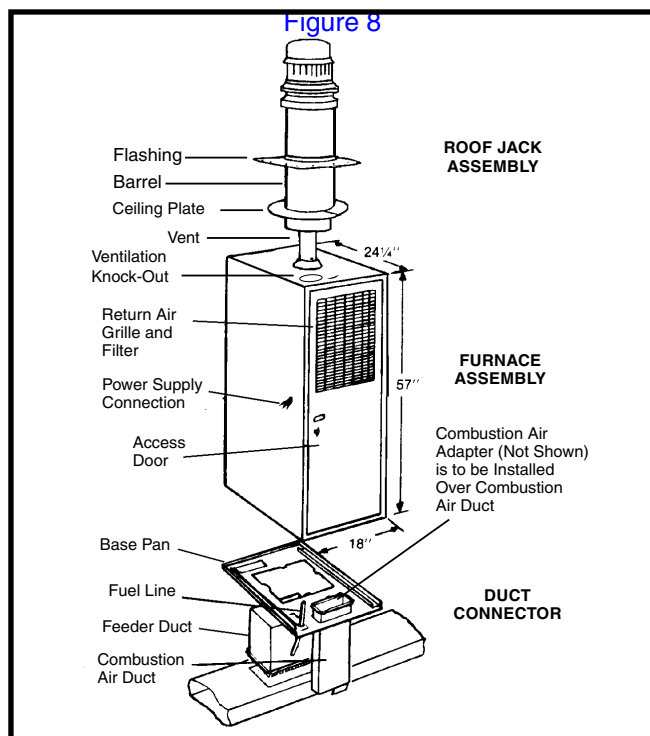
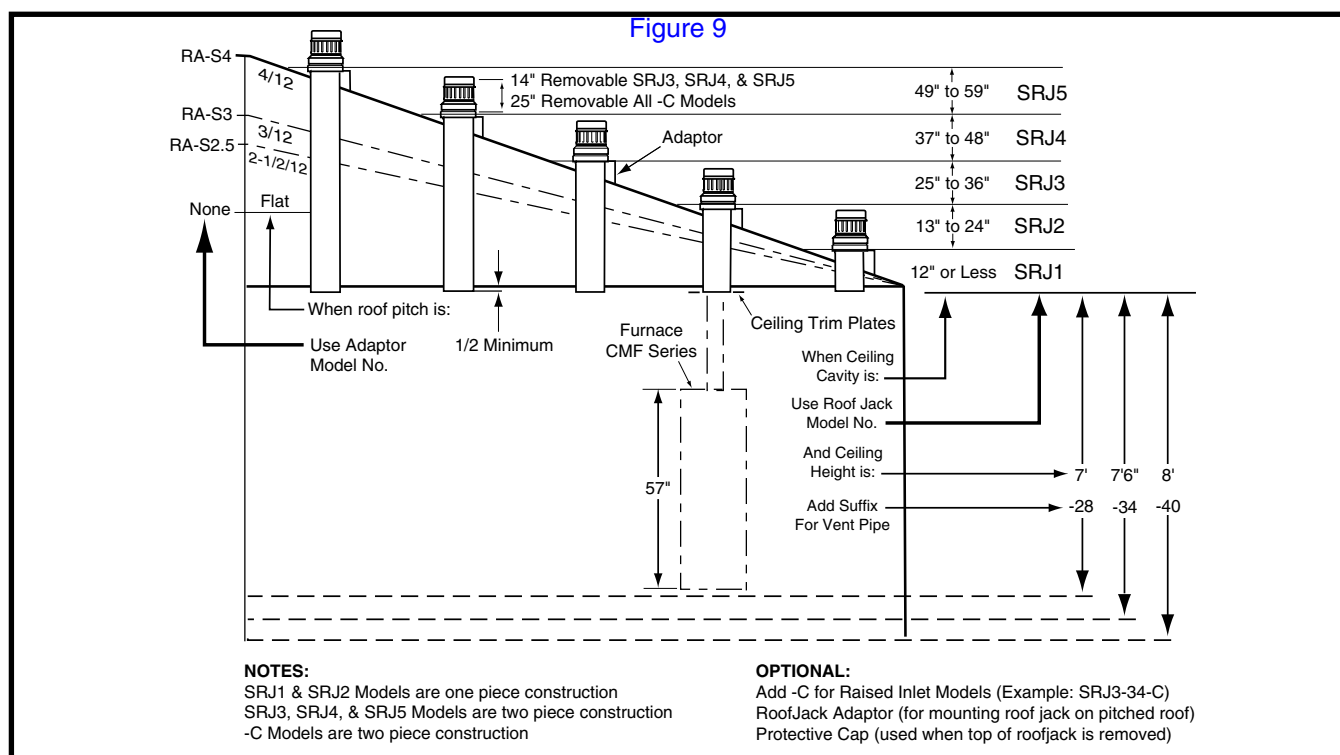

Figure 8. Typical Furnace Installation for Manufactured Housing Applications
Figure 9. Selection of Roof Jack & Accessories Chart
Required ceiling and roof cut-out openings must be accurately located to prevent hazardous misalignment of the furnace and roof jack. Figure 8 displays a typical installation for manufactured housing applications. Refer to Figure 9 \(page 11\) to determine appropriate SRJ roof jack and accessories required for your installation. Install only SRJ series roof jack as specified on the furnace label.
- The roof jack and vent pipe as determined from the chart in Figure 9 must be applied.